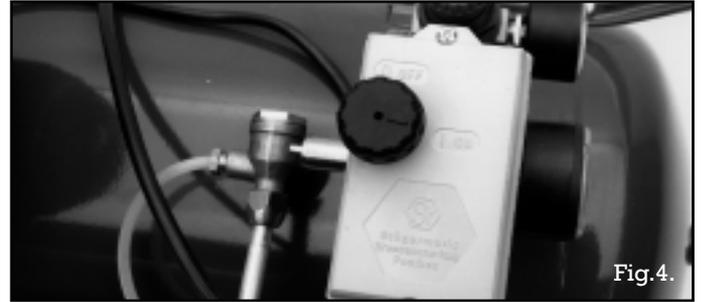

Fig.4.
4. To start the compressor turn the switch to the ON position as shown in Fig.4.